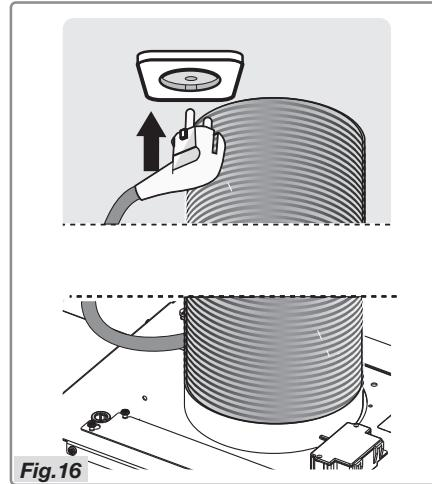

Fig.16
- Insert the plug into the disconnected wall socket (Fig.16).